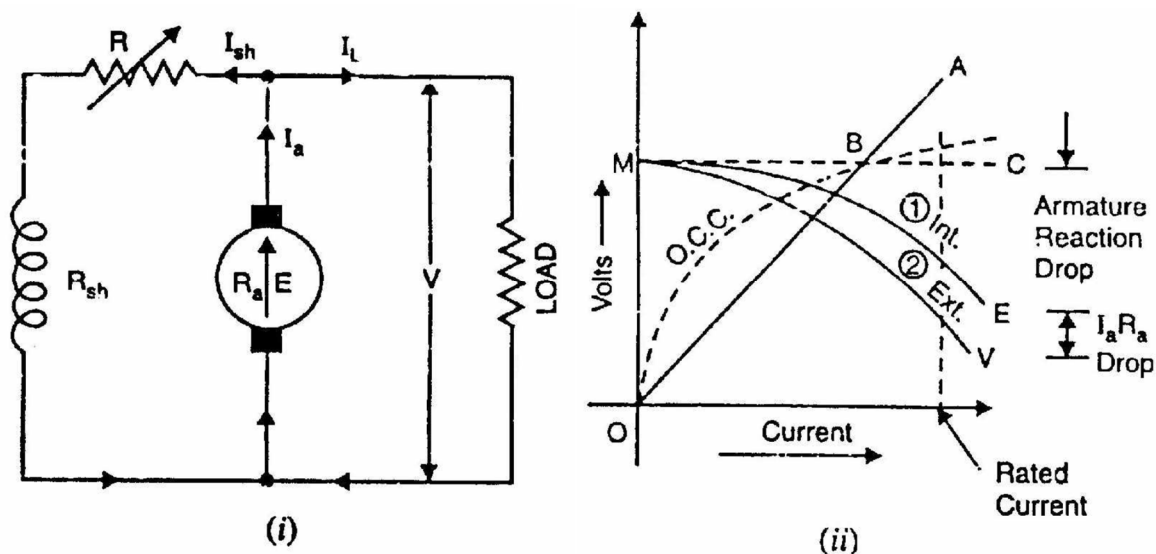

Fig. 4 Characteristics of DC shunt generator.
When the generator is loaded, flux per pole is reduced due to armature reaction. Therefore, EMF (E) generated on load is less than the EMF generated at no load. As a result, the internal characteristic (E/I_a) drops down slightly as shown in Fig.4 (ii).
Therefore, external characteristic curve will lie below the internal characteristic curve by an amount equal to drop in the armature circuit [i.e., $(I_L + I_{sh}) R_a$] as shown in Fig. 4 (ii). Note. It may be seen from the external characteristic that the change in terminal voltage from no-load to full load is small. The terminal voltage can always be maintained constant by adjusting the field rheostat R automatically.